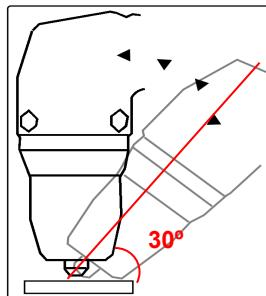

Figure 3
- Should you need to make holes or begin cutting from the centre of the work piece, you must hold the torch at an angle ($\square 30^\circ$), and slowly straighten it so that the nozzle does not spray molten metal (see Fig. 3). This must be done when making holes in pieces more than 3 mm thick.